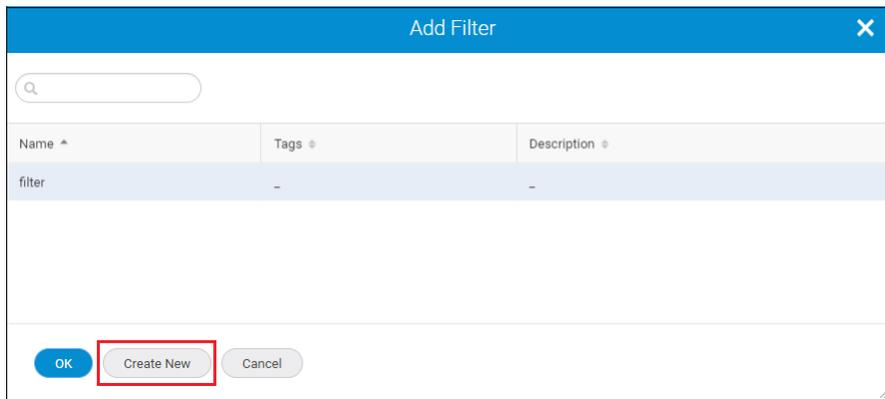

Figure 5-159 Creating a forwarding filter
5. To create a filter, select **Create New** from the Add Filter window (Figure 5-159).